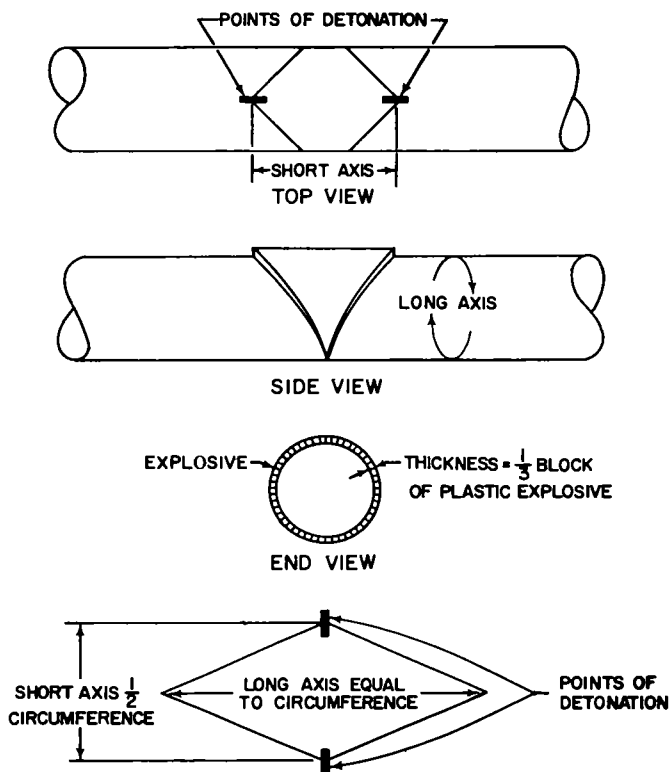

Figure 120. Diamond charge.
- (2) *Diamond charge.* This charge is used on high carbon steel or steel alloy targets. It is diamond shaped and is wrapped completely around the target (see fig. 120) so that the ends of the long axis meet. Detonate the charges simultaneously from both short axis ends. The best means of doing this is to crimp nonelectric blasting caps to the ends of two pieces of detonating cord of the *exact same length*. The two pieces of detonating cord are detonated by an electric or nonelectric cap.